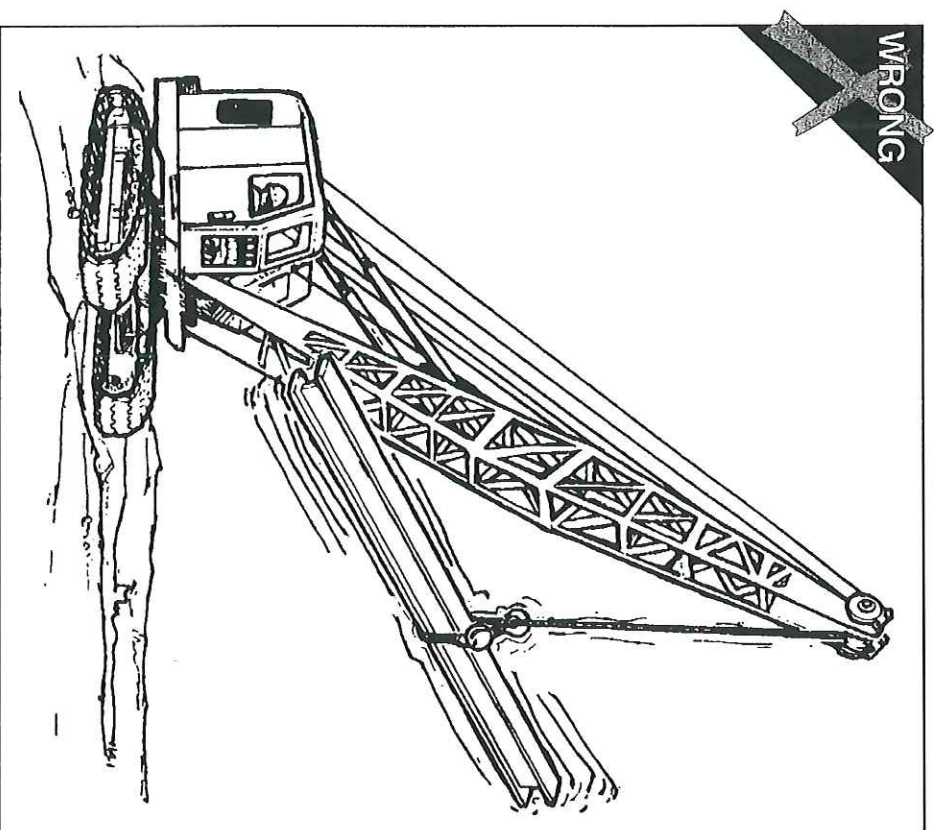

FIG. 19
- **The load is well secured** and properly balanced in the sling or lifting device before it is lifted more than a few inches. (FIG. 19)
- The hoist line is **not** wrapped around the load in place of a sling or chain. (FIG. 19)